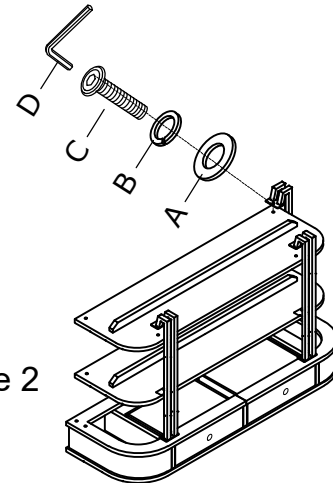

Figure 2
3. Attach both shelves to the three legs using Flat Washer (A), Lock Washer and Bolt (C), tighten with the Allen Wrench (D). As Shown in Figure 2. (Do not over tighten bolts during assembly.)